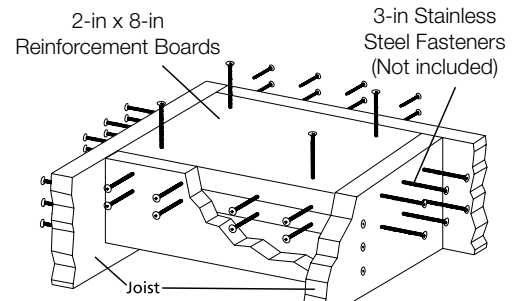

Figure 1
2. The thickness of the wood/composite deck and reinforcement boards underneath the deck should be a minimum of 4-in. (Two treated and structurally sound 2-in x 8-in lumber under the deck board, Fig 4). Fasten the reinforcement boards with 3-in stainless steel fasteners as shown (Fig 1).